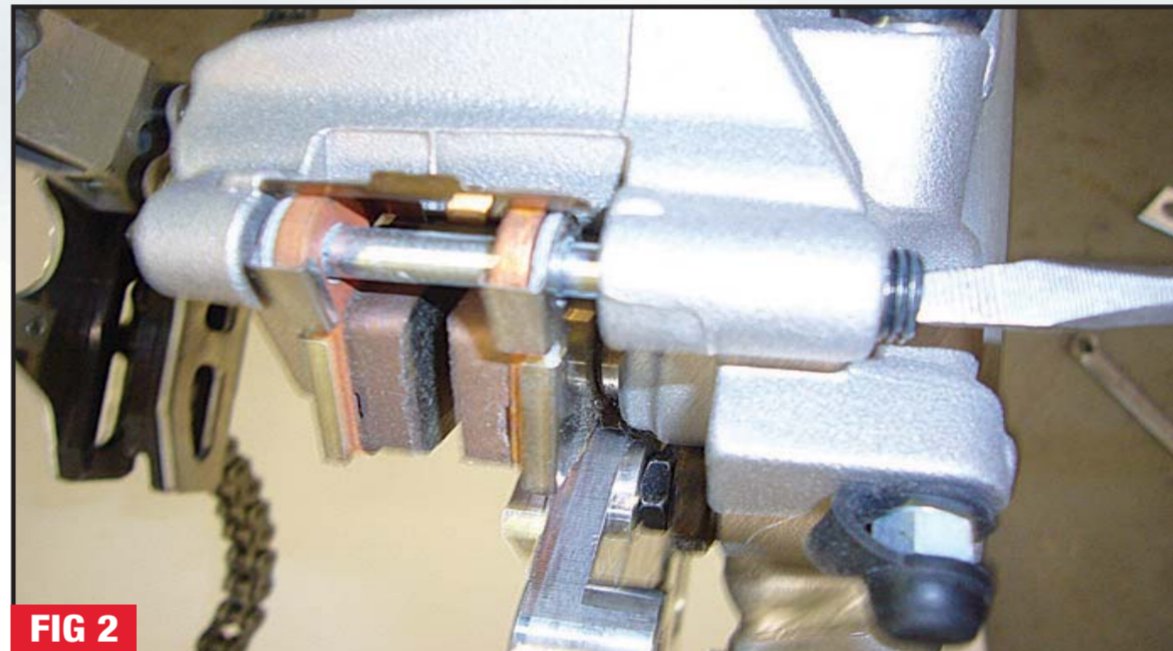
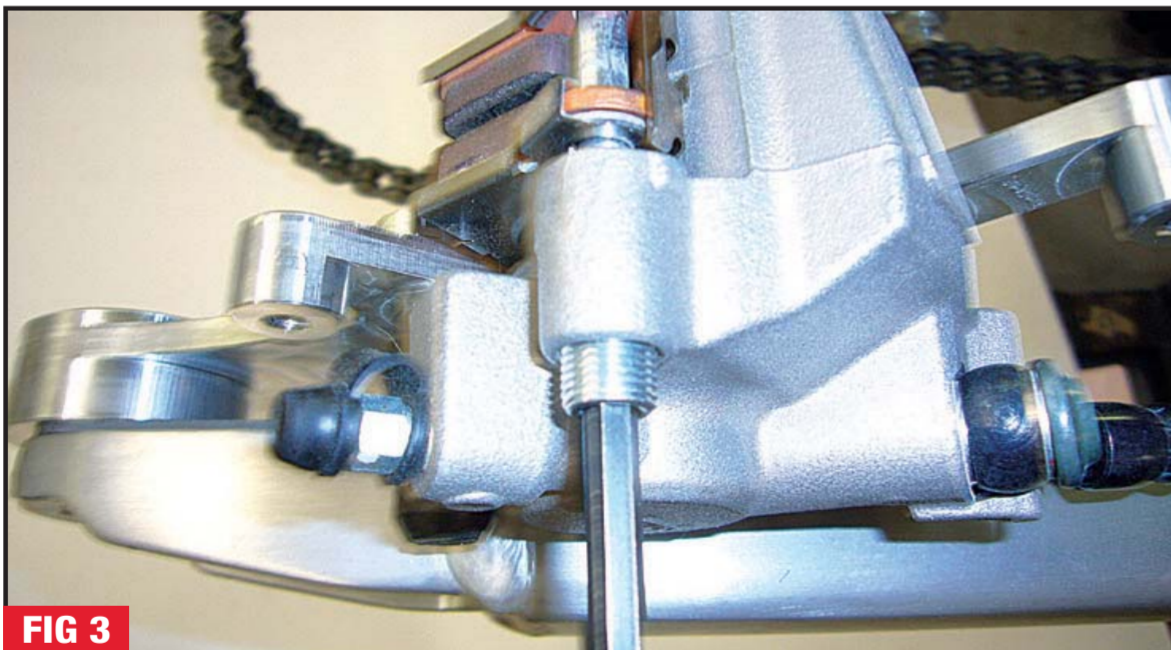

FIG 2
FIG 3
- 3 Remove brake pin access plug using a flat blade screw driver (except on 13-030, 13-031, 13-041, 13-045, 13-046, 13-047 & 13-048). (Fig 2) Remove brake pin with a 5mm Allen wrench or 8mm socket depending on your model (on 13-045 remove the two brake pin retaining clips). (Fig 3) Remove rear brake pads.